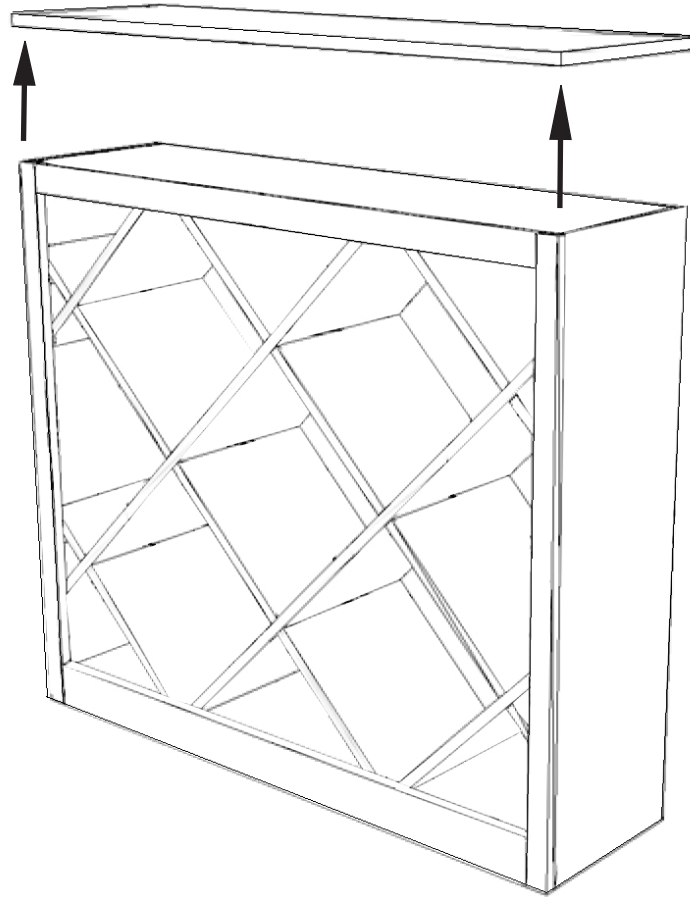

Figure 8
7. Locate the panels marked F1 (2) and F2 (2). Again, using the cleats as your guide, align the bottom of the panels with the left side cleats. Insert panel F1 in the upper left hand corner, fitting the slot in the center of the panel over the top of the slot in panel B1. After you have inserted panel F1, work your way down by inserting all remaining F2 panels and finish by inserting the second F1 panel in the lower right hand corner (**Figure 8**). *(*Be sure to carefully align the edges of the inside panels so that they are flush with both the front and back edges of the side, top and bottom panels. You may need to use a soft-faced hammer or mallet to ensure a proper fit over the back panels.)*
13. **To attach a tabletop:** Position the tabletop so it is flush with the sides, front and back of the diamond bin. Using the washer head screws provided, attach the tabletop by drilling through the under side of the bin's top panel to secure the tabletop (**Figure 8**).